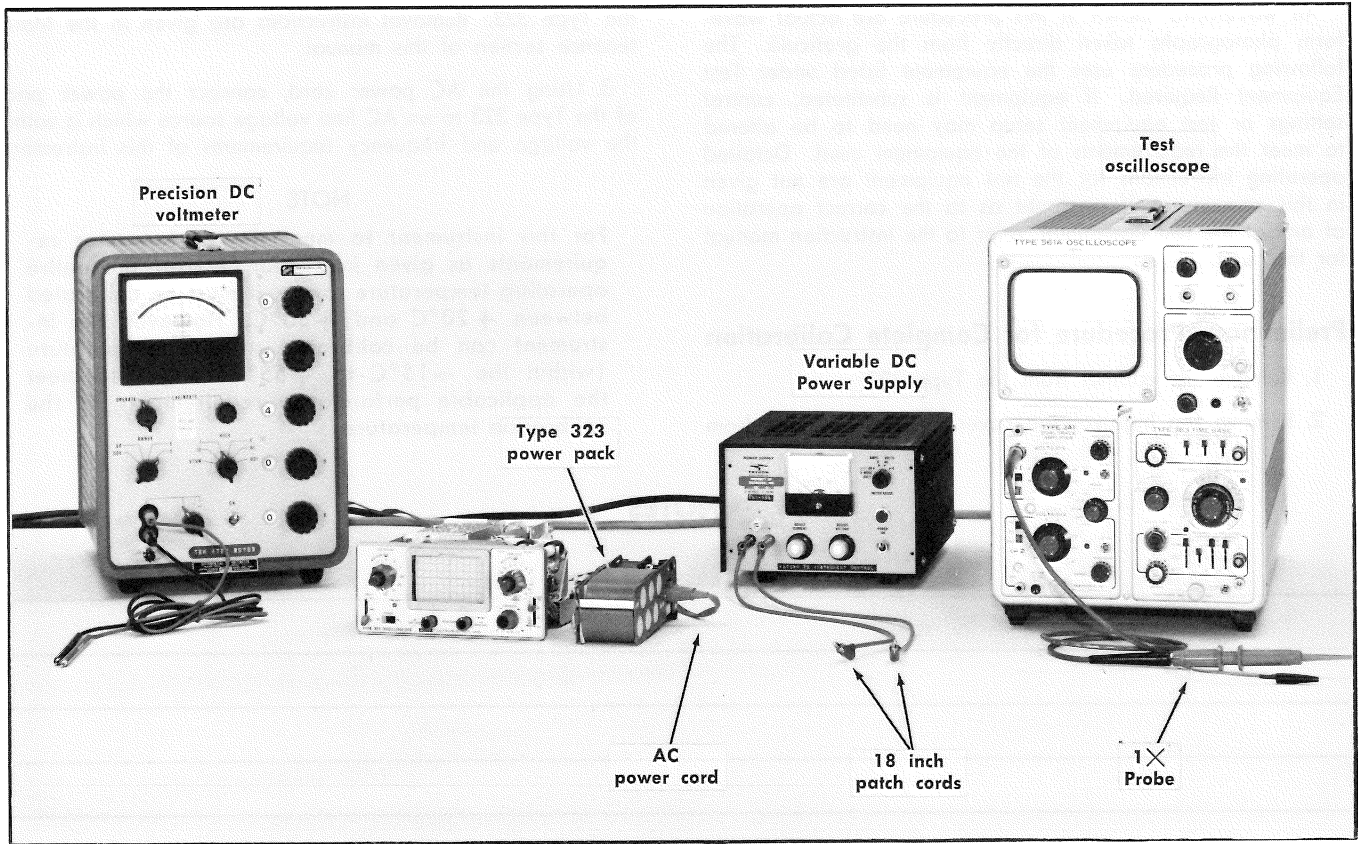

Fig. 6-1. Initial test equipment setup for steps 1 through 12.
- a. Test equipment setup is shown in Fig. 6-1.